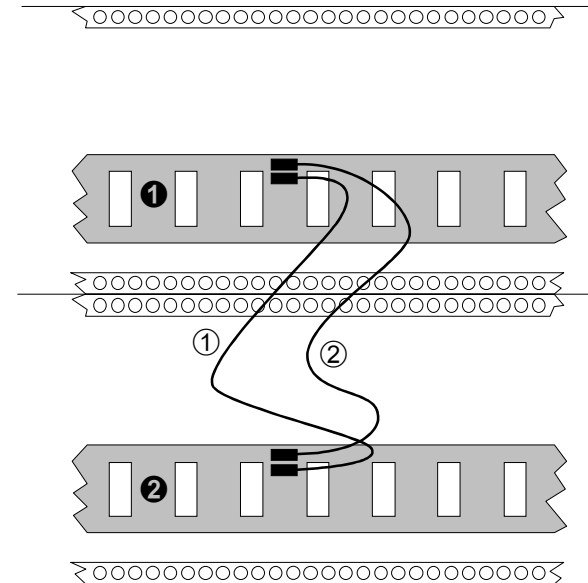

Fig. 8: Making a common INT.CV and INT.GATE signal path between the upper and lower busses.
- Remove Jumpers **J1** and **J2**(see p.9) from the upper (see Fig. 8 ①) and lower (see Fig. 8 ②) system bus boards.
- Replace the jumpers with the special CV / gate leads, A-100 BC (see Fig. 8 ①, ②).